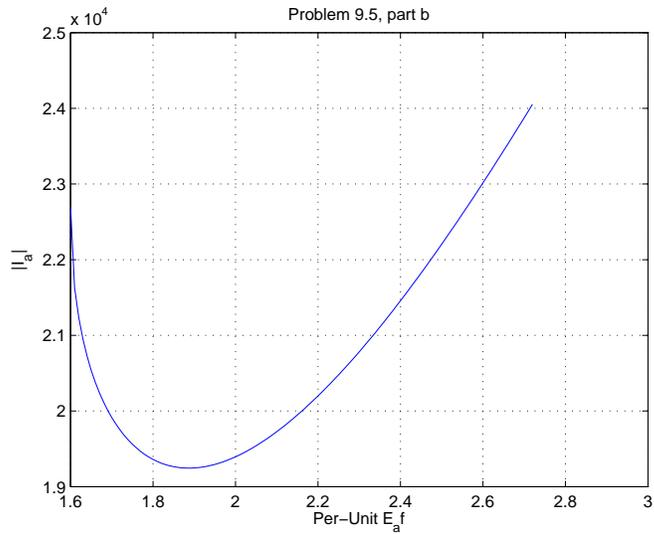

Figure 3: Problem 9.5, part c
**Parts c-e** The rest of this problem is carried out in the script that is appended. First, the vee curve from the point we just computed to the overexcited field limit is shown in Figure 3.